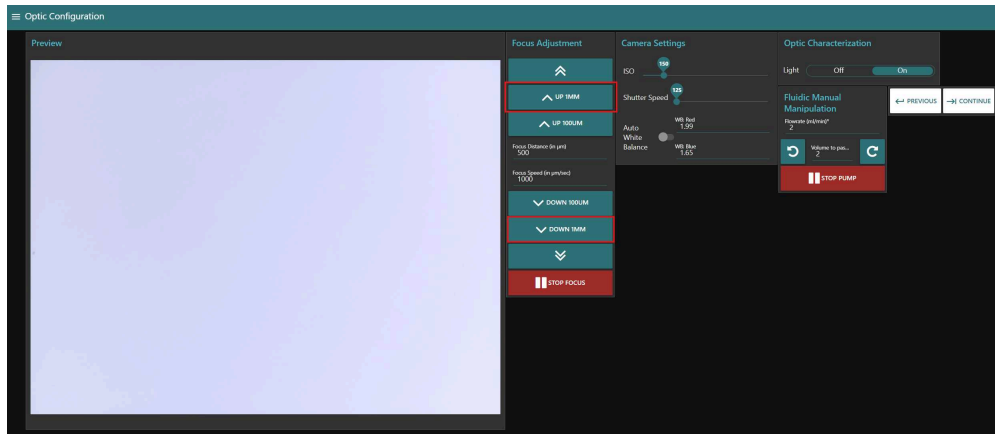

Figure 8: Red boxes highlight "UP 1MM" and "DOWN 1MM"
- Under "Focus Adjustment" (Fig.8), **click "UP 1MM" and "DOWN 1MM"** to ensure focus buttons turn the focus motor (same for the 100 UM version of the button). You should see the frame moving further from (UP) or closer to (DOWN) the camera. **You can also use the ">>" button to move your focus according to a personalized value ("Focus distance").**